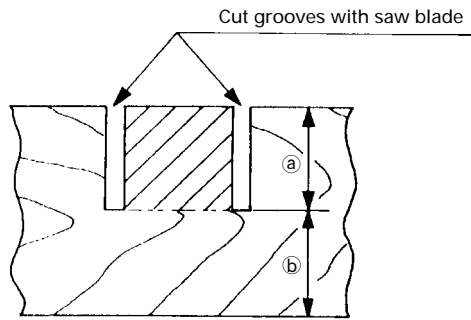

Fig. 46
Grooves in the workpiece can be cut as indicated in Fig. 46 by adjusting the 8mm depth adjustment bolt.
- (1) Loosen the 8mm wing nut and turn the 8mm depth adjustment bolt by hand.
- (2) Adjust to the desired cutting depth by setting the distance between the saw blade and the surface of the base (see (b) in Fig. 46).
- (3) The 8mm wing nut must be properly tightened after the adjustment has been completed.